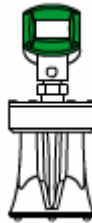

Figure 1 3DLevelScanner Sensor
- ① Documentation.
- ① 3DLevel Manager Software CD.
- ① 3DLevelScanner Sensor – see *Figure 1*.
Figure 1 shows the 3DLevelScanner Sensor.